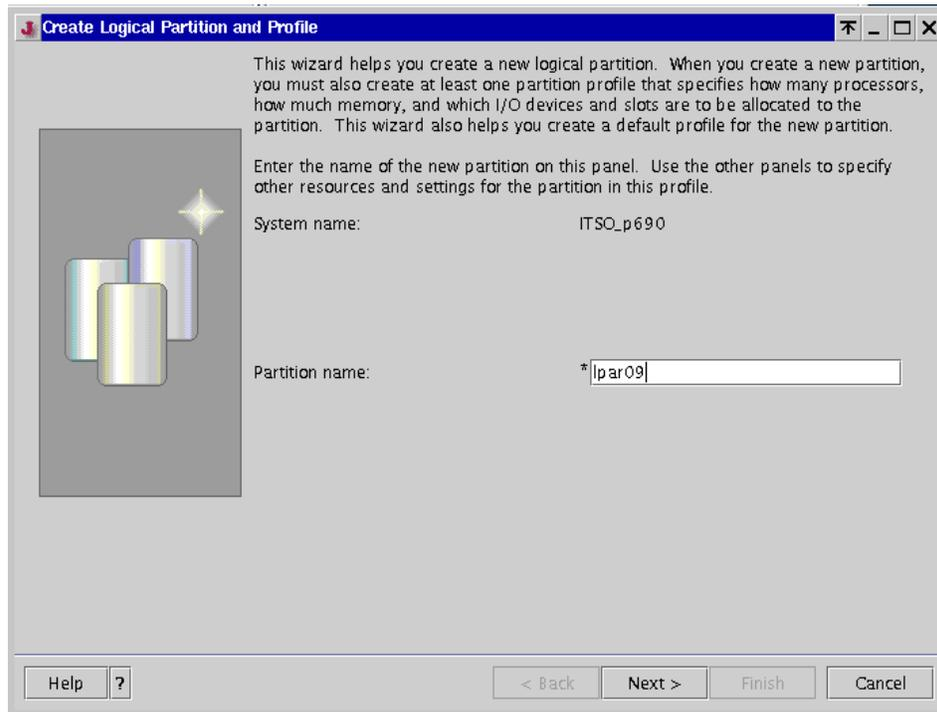
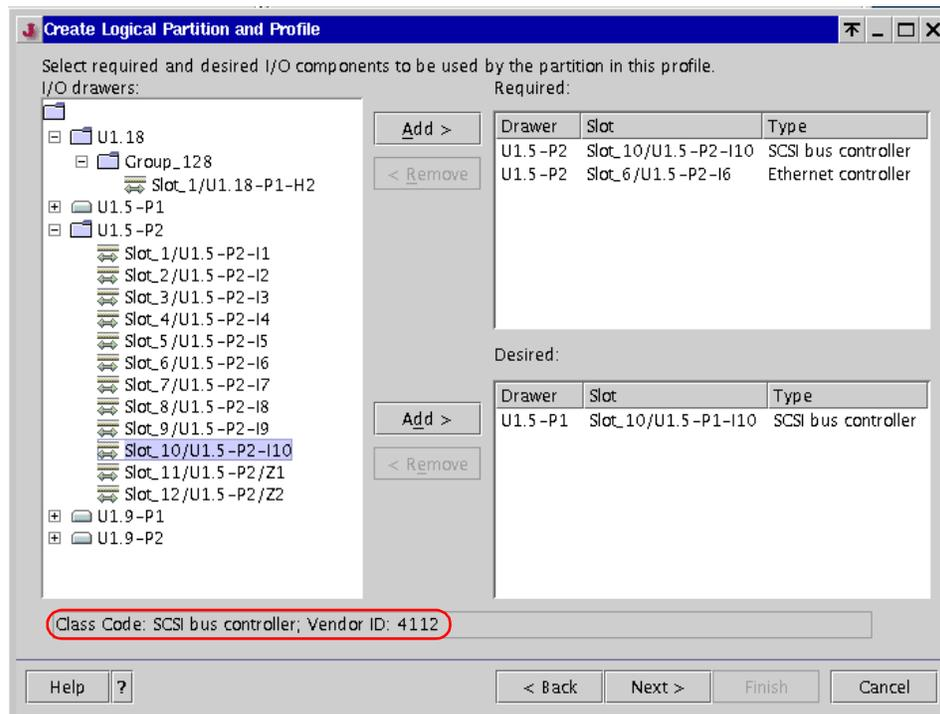

Figure 6-2 Panel 1: Partition name
Figure 6-6 Panel 5: I/O components
2. After you select **Logical Partition**, the Create Logical Partition and Profile wizard opens (it is shown from Figure 6-2 on page 167 to Figure 6-6 on page 172). It enables you to create a new partition with at least one default partition profile.
3. First, you have to enter a name for the partition that you are creating. In Figure 6-2, we typed lpar09 for the partition name. The partition name has a limit of 31 characters and must be a unique name within the managed system. Click **Next**.
- The wizard shows you the I/O components assignment panel, shown in Figure 6-6. The left side of the panel displays the I/O drawers available and configured for use. You can expand the I/O tree to show the individual slots in each drawer by clicking the icon next to each drawer.
Note: The information shown in Figure 6-6 is highly dependant on our test environment explained in Appendix A, “Test environment” on page 389. If your managed system is other than pSeries 670 or pSeries 690, please consult with the appropriate publications shipped with the system.
You might be curious why you see 12 slots in the 7040-61D I/O drawer in Figure 6-6 on page 172 even though there are 20 PCI slots available for each I/O drawer. To better understand why, you have to understand the following points:
- Each planar board is displayed as a separate entity in Figure 6-6 on page 172. In this example, the left side of the planar board of the second I/O drawer (viewed from the rear side of the CEC) is represented as U1.5-P1. The right side is represented as U1.5-P2.
- Each planar has two built-in SCSI controllers, in addition to having 10 PCI slots available. These controllers are also displayed as I/O slots in Figure 6-6 on page 172. Therefore, 12 I/O slots in total are displayed under the tree.
There are also desired and required I/O slots fields in this panel. In Figure 6-6 on page 172, you can see two slots are assigned as required I/O slots, and one slot is assigned as desired.
I/O	Very similar to Figure 6-6 on page 172